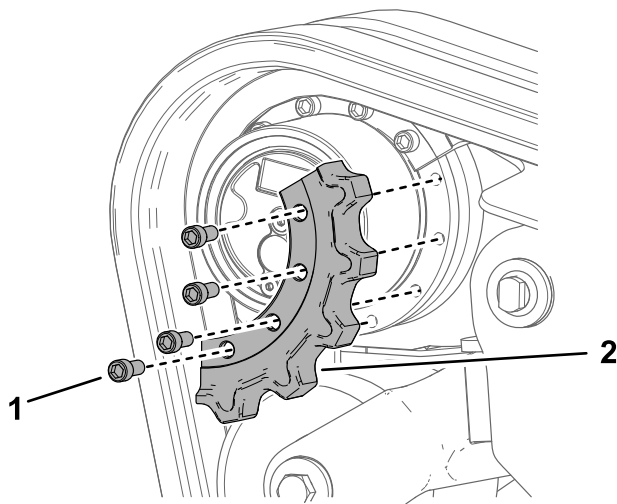

Figure 68
12. Remove the sprocket segment (Figure 68).
7. Apply thread-locking compound to the bolts of 1 drive sprocket segment that you removed and install the sprocket segment (Figure 68). Torque the bolts to 247 to 301 N·m (182 to 222 ft-lb).